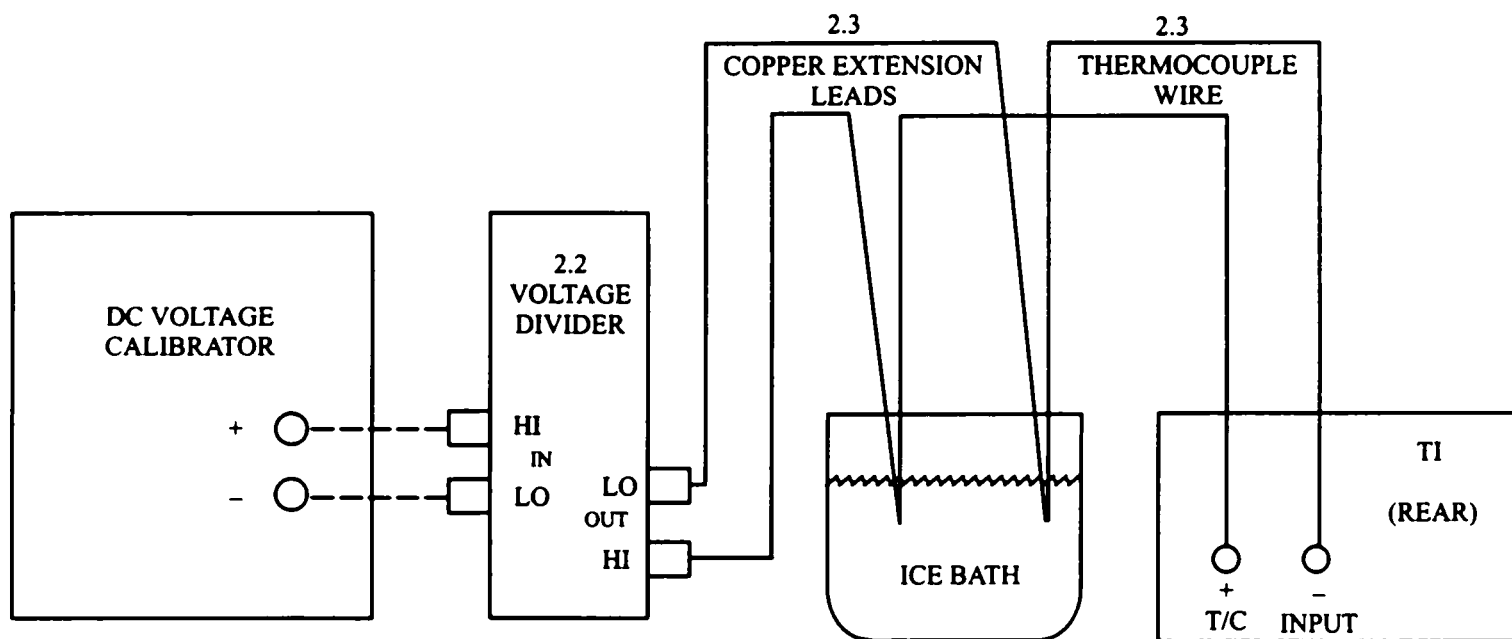

Figure 1. TI Indicator Test Configuration
4.1.1 Connect the equipment as shown in Figure 1, using the appropriate thermocouple wires and copper extension leads (item 2.3). Refer to Appendix A when selecting the thermocouple wire.
For voltage indication requiring minus (-) millivolts from the voltage divider (item 2.2) OUT terminals, connect the divider HI and LO IN banana plugs directly to the calibrator - and + OUTPUT terminals, respectively, instead of the connections shown in Figure 1.